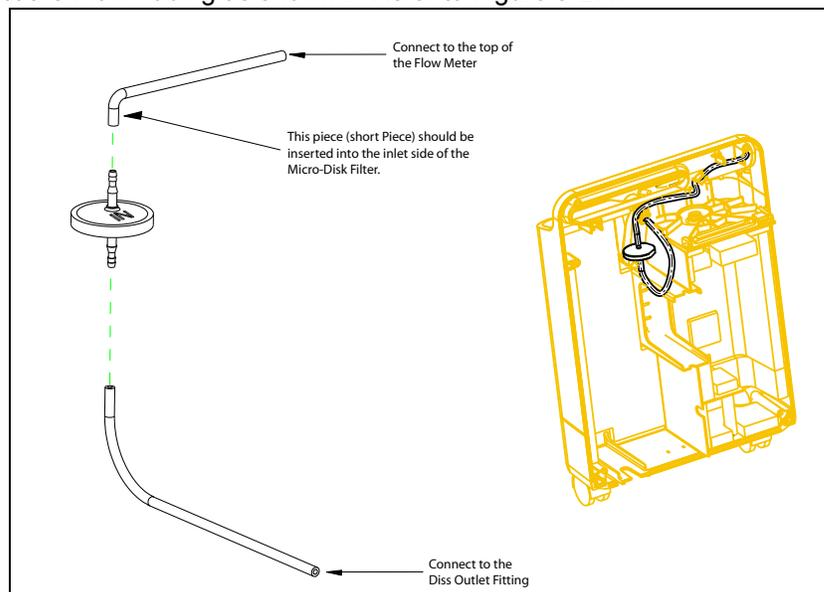

FIGURE 8-27: FLOW TUBING INSTALLATION
3. Connect the Flow Tubing as shown in Refer to Figure 8-27..